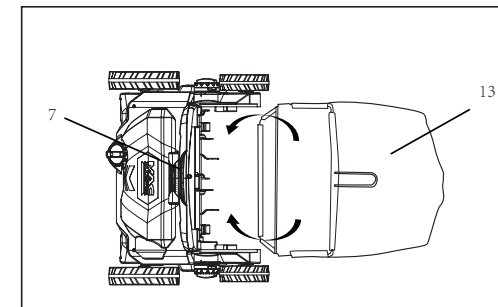

Fig. 10
2. Open the deflector guard (7), hold it in position and align the grass catcher (13) with the hooks to the hinges to hang it onto. (Fig. 10).